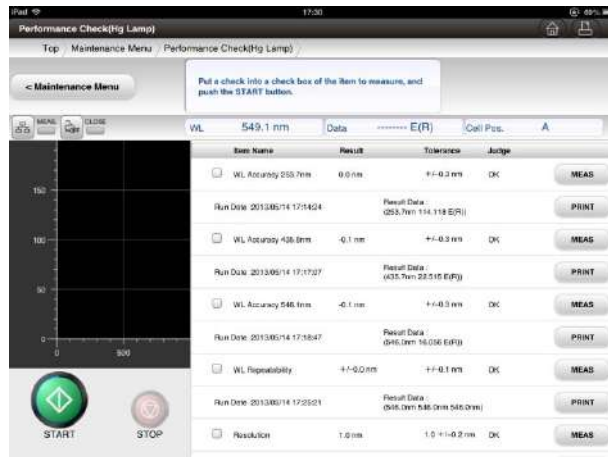

Fig. 6-38 Performance Check Screen
- (1) Display the Performance Check (Hg lamp) screen (Fig. 6-38). You can print in a report format each performance check item checked by using the Hg lamp. For printing report, press the
on the screen as shown in Fig. 6-38.